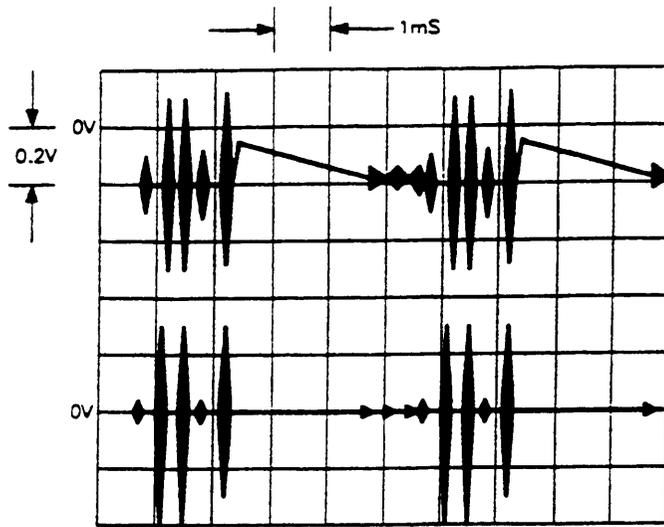

Figure 4. Beatnote Amplifier.
The beatnotes in Figures 4 and 5 can not be checked with the digital oscilloscope. The HP 1740A analog oscilloscope (obsolete) or equivalent can be used.
7. Switch the Signal Generator back ON and verify that the oscilloscope display shown in Figure 4 is correct.